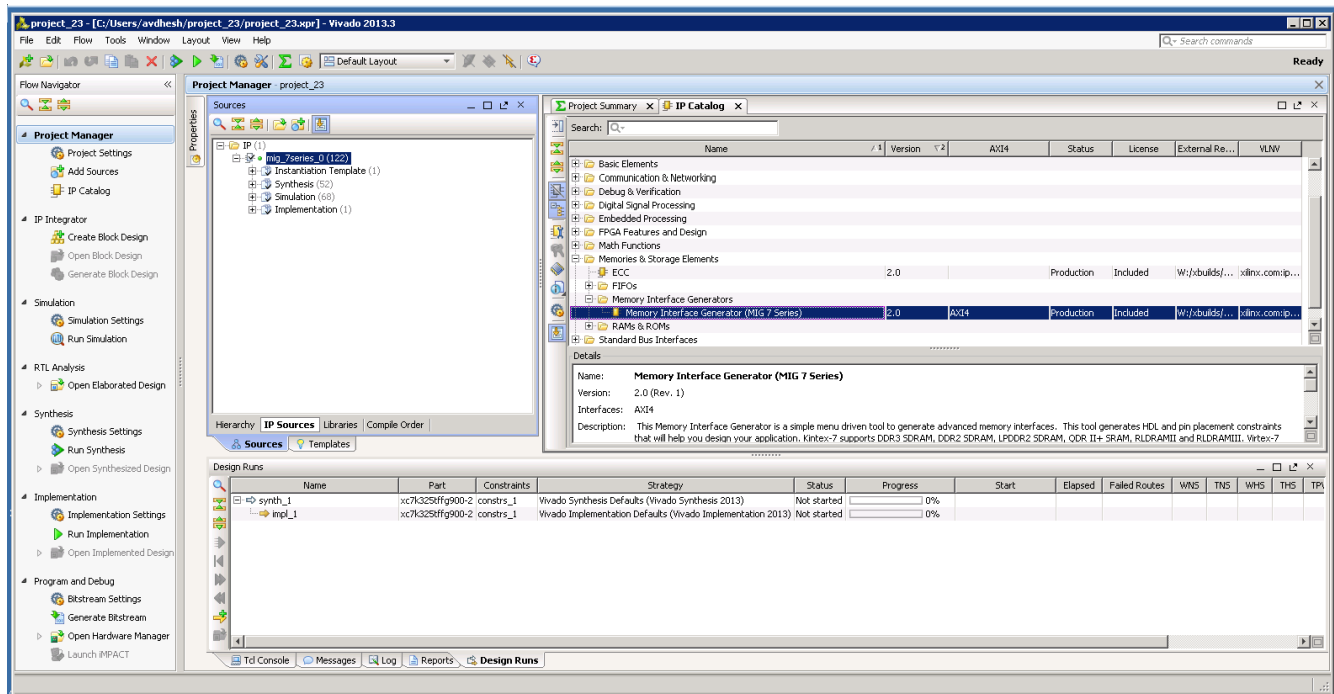

Figure 1-31: Vivado Tool Project Window (After IP Generation)
4. After generating the MIG core design, the project window appears as shown in Figure 1-31.